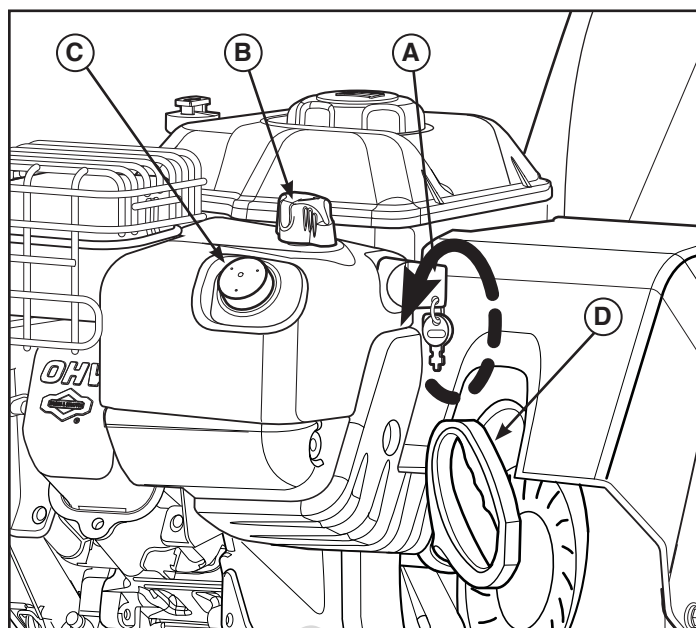

Figure 5
3. Insert the ON/OFF key (A, Figure 5) and turn to the ON position or insert the Push/Pull key, if equipped.
4. Turn the choke knob (B) fully clockwise if engine is cold.
6. Rewind Start: Firmly hold the starter cord handle (D, Figure 5). Pull the starter cord slowly until resistance is felt, then pull rapidly.